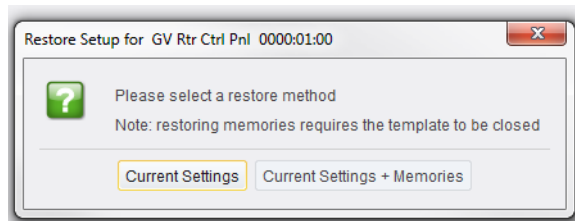

Fig. 6-23: Restore Method Dialog
- 5 A further dialog is shown, see Figure 6-23.